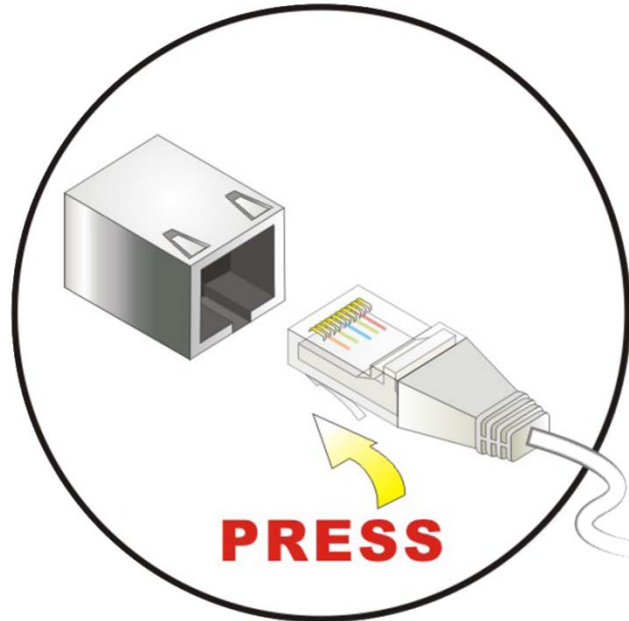

Figure 5 – LAN Connection
Step 2: Align the connector. Align the RJ-45 connector on the LAN cable with the RJ-45 connector on the bottom panel of the TSM800. See Figure 5.